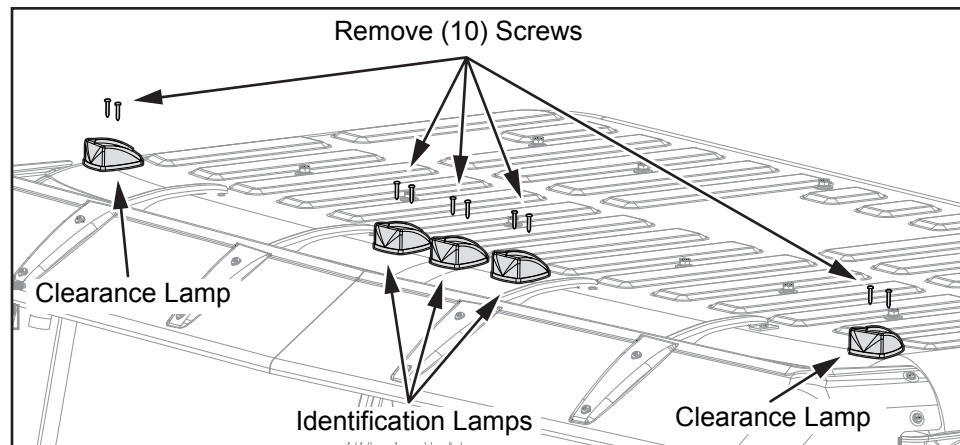

Figure 6
6. Locate the clearance and identification lamps. Remove and discard (10) mounting screws. Remove the clearance and identification lamps and set aside for reinstallation. Remove and discard any remaining seal and sealant from the cab roof and lamps (See Figure 6).